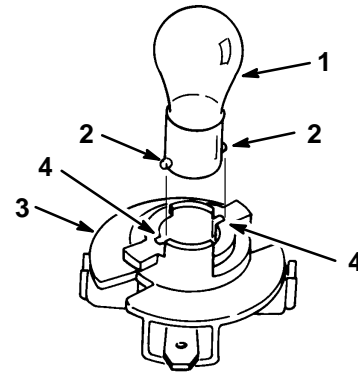

Figure 34
4. Push and rotate the bulb counterclockwise until it stops (approx. 1/4 turn) and remove bulb from the bulb holder (Fig. 34).
1. The bulb has metal pins on the side of its base. Align the pins with the slots in the bulb holder and insert the base into the holder (Fig. 34). Push and rotate the bulb clockwise until it stops.